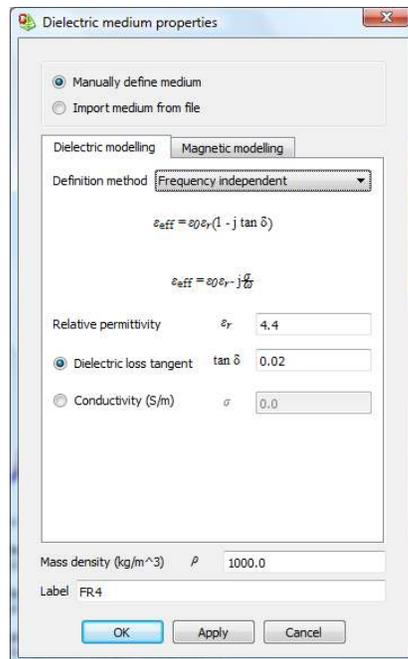

Figure 6.
8. By default, all the created geometries are assigned a “PEC” perfect element conductor material. If you want to use a dielectric material for example, you need to defined one, assign its properties and then use it for the geometry of interest. We will be using an FR-4 substrate above the GND plane that we created to print the antenna on. Thus, to create an FR-4 material, we need to right click in “Media” from the side menu, and select “Create Dielectric Medium”. Fill the window as shown in Figure 6. You have to know in advance the material properties to be able to predict the correct behavior of the material. Click “Create” after you fill in all the info of the material.